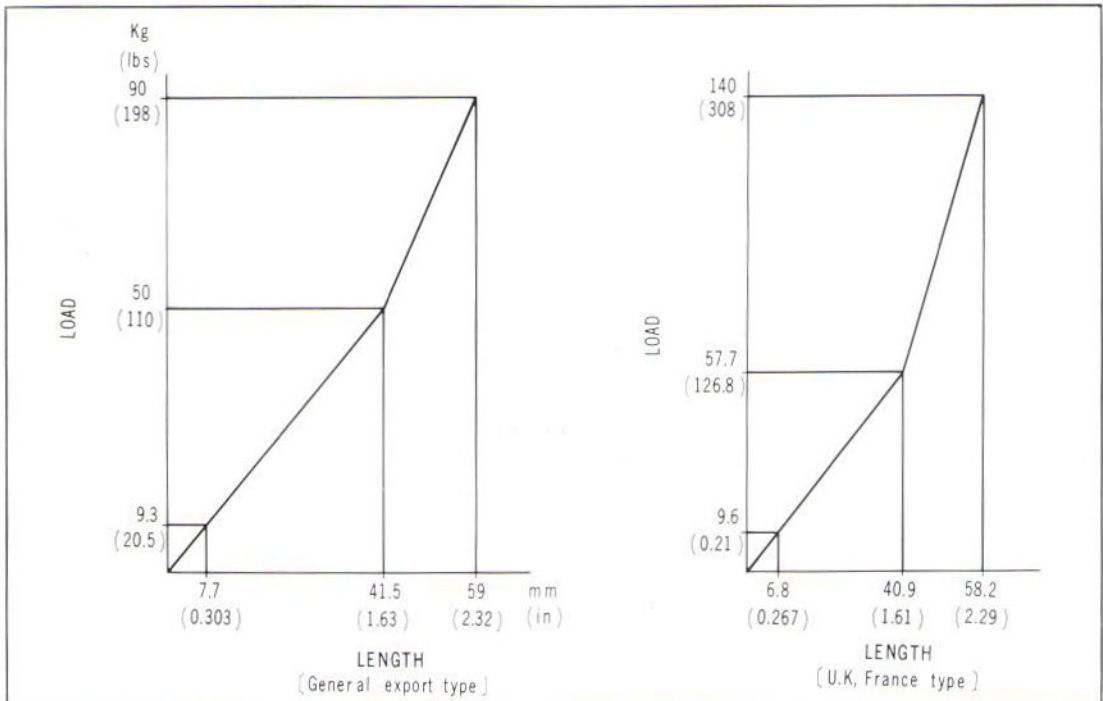

Fig. 4.27 Rear cushion spring characteristic
3. Rear cushion spring characteristics (Fig. 4.27)